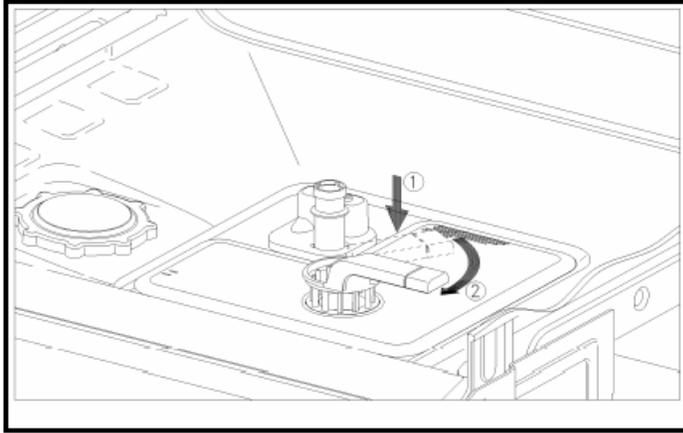

Figure 5-36: Filter Combination Lock/Unlock Positions
4. Press the large surface area fine filter downwards, Fig. 5-36, Pos. 1.
5. Fit the handle (crown coarse filter) and turn it clockwise as far as possible, Fig. 5-36, Pos. 2.
6. Carry out a visual check: The handle (crown coarse filter) should be parallel to the door, Fig. 5-36.
5. Fit the handle (crown coarse filter) and turn it clockwise as far as possible, Fig. 5-36, Pos 2.